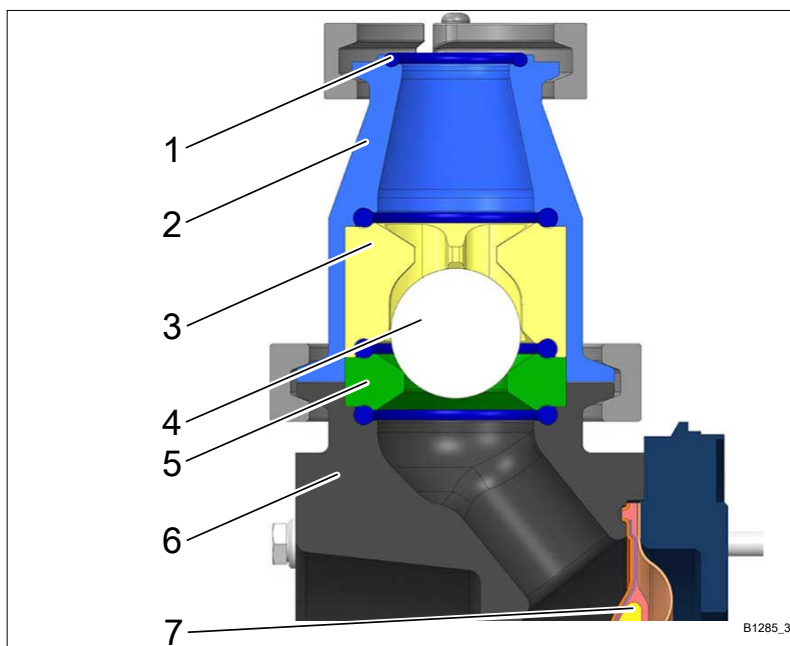

Fig. 5: Cross-section: Sigma Hygiene liquid end
- Components can fall out of the valves, such as balls and valve seats Fig. 5, especially out of the discharge valve, and become damaged, making them unsuitable for hygienic use.